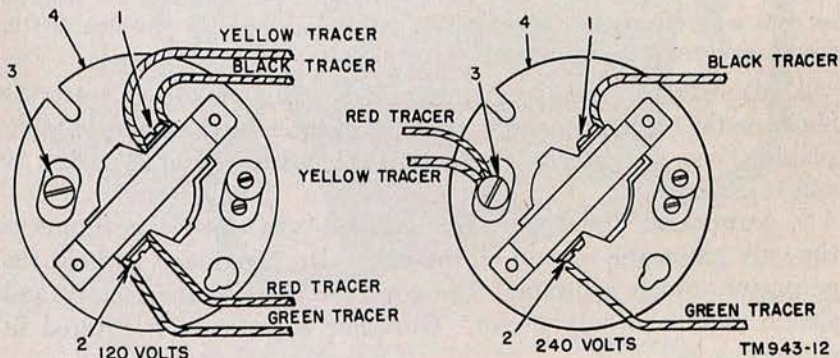

Figure 12. Generator GN-51-C, voltage connection diagram.
a. The windings of the generator are so arranged that by reconnection either 120 or 240 volts may be obtained. Be sure that connections in the outlet box are properly made for the desired voltage, according to the diagram (fig. 12).
b. To change the voltage, first remove the outlet cover (4) on the end of the generator by loosening the two fastening screws. Then proceed as follows:
- (1) If the generator is connected for 120 volts and 240 volts is desired, loosen the two screws (1 and 2) on the outlet on the back of the cover, and remove the RED and YELLOW leads. (These are the only leads which have open-type terminals and can be removed without removing terminal screws.) Place both RED and YELLOW leads under the head of the extra terminal screw (3) beside the outlet and tighten all three screws.
- (2) If the generator is connected for 240 volts and 120 volts is desired, remove the RED and YELLOW leads from the extra terminal screw (3) beside the outlet. Fasten the RED lead under the head of the screw on the outlet to which the GREEN lead (2) is fastened. Fasten the YELLOW lead under the screwhead on the outlet to which the BLACK lead (1) is fastened. Tighten all three screws before replacing outlet plate.